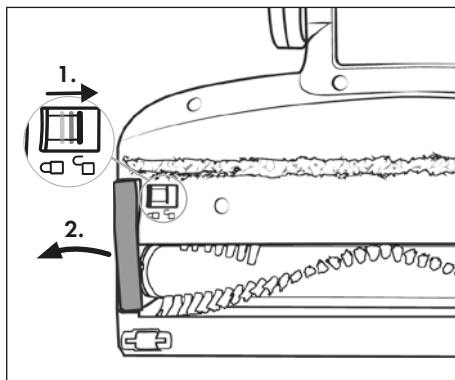

Fig. 24
- 2) Unlock the rotary brush 21 by sliding the rotary brush release 19 to the right with your finger and then remove the rotary brush holder 20 from the floor brush 22 (see Fig. 24).